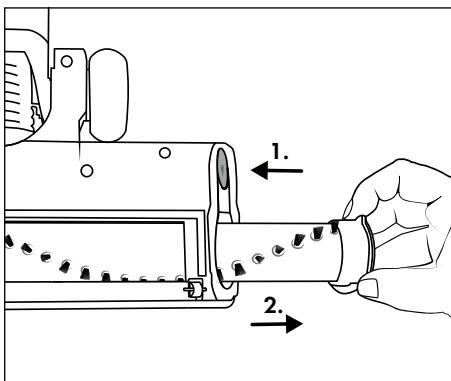

Fig. 26
- 2) Unlock the rotary brush 20 by pressing your finger on the rotary brush release 19. The rotary brush 20 comes free from the mount and can be pulled out of the floor brush 21 (see Fig. 26).